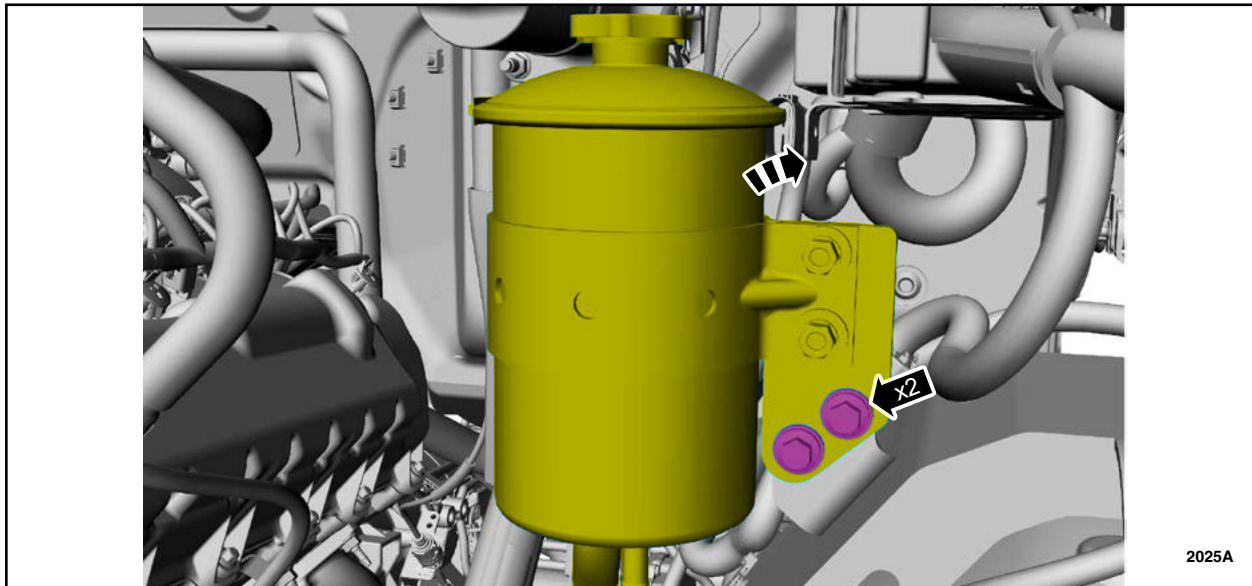

FIGURE 2
5. Remove the bolts and position aside the power steering fluid reservoir. See Figure 2.
21. Position back and install the power steering fluid reservoir by reversing Step 5. See Figure 2.